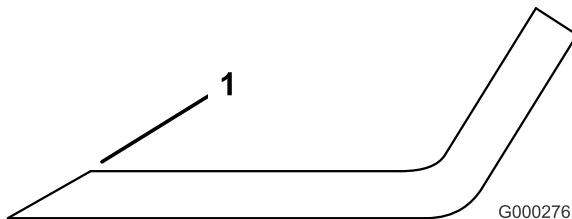

Figure 67
- Use a file to sharpen the cutting edge at both ends of the blade (Figure 67). Maintain the original angle. The blade retains its balance if the same amount of material is removed from both cutting edges.